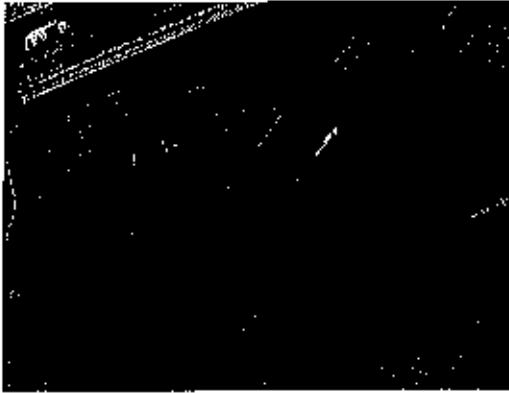
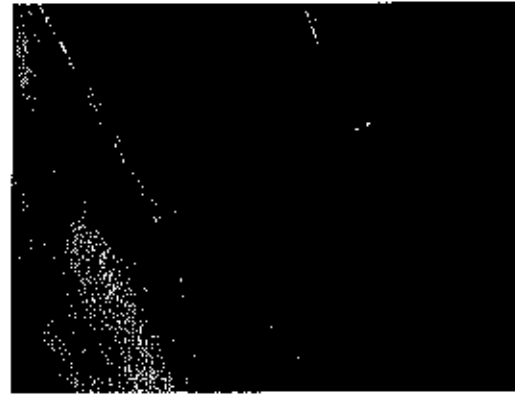

Figure 58
Figure 59
- From the cot foot end, press the red (lock) side of the foot pedal as shown in Figure 58 or from the cot head end, press down on either red pedal as shown in Figure 59.